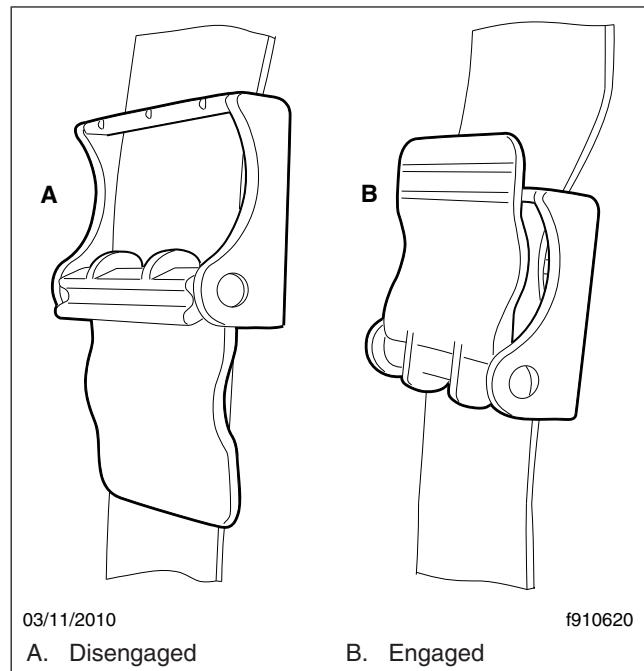
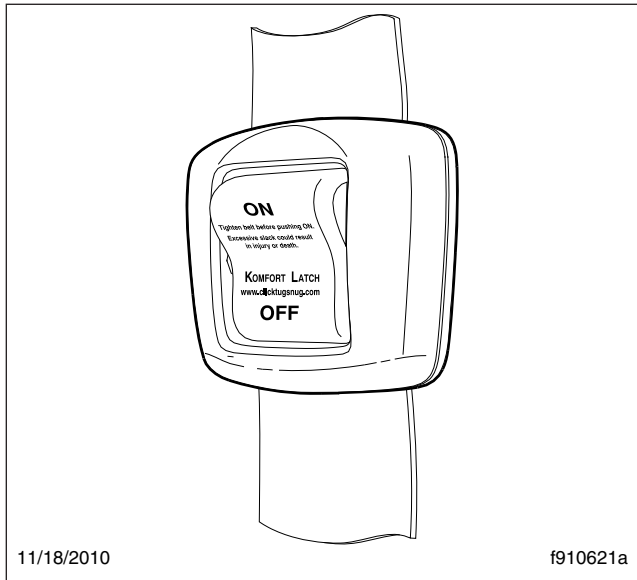

Fig. 5.29, Comfort Clip
Fig. 5.30, Sliding Komfort Latch
When engaged and used properly, the comfort clip, as shown in Fig. 5.29 and the Sliding Komfort Latch, as shown in Fig. 5.30 introduce a small amount of slack into the seat belt, resulting in a more comfortable ride.
*If equipped with a Sliding Komfort Latch, make sure that the shoulder strap is snug against your chest. Without loosening the shoulder strap, push the Sliding Komfort Latch switch to the "ON" position. See **Fig. 5.30**. To activate the latch lean forward until you hear a click. This will allow for approximately 1 inch (2.5 cm) of slack between your chest and the shoulder harness. Once engaged, the latch will allow you to lean forward about 5 inches (13 cm) without having to reset the latch. Leaning forward more than 5 inches (13 cm) will disengage the Sliding Komfort Latch, requiring it to be reset.*